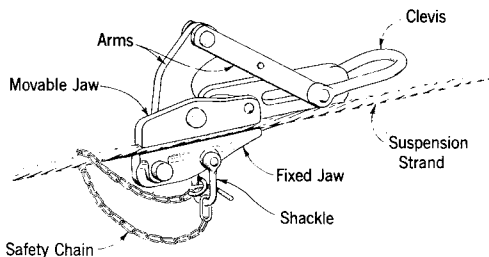

Fig. 2—L Strand Puller
3.01 The L strand puller is designed for tensioning all the standard sizes of strand, when the pulling load does not exceed 5000 pounds. It is mounted on the suspension strand as illustrated in Fig. 2, and shall be used only under the following conditions.